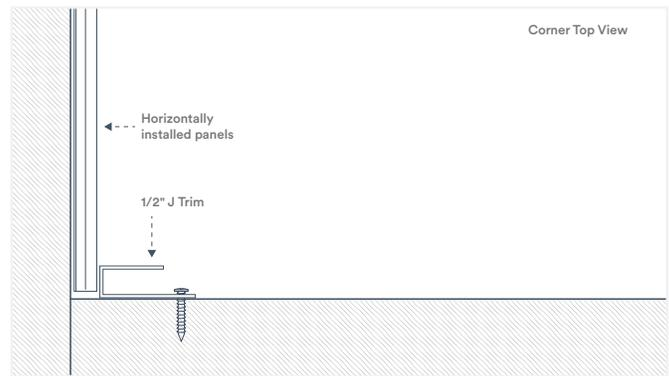

Fig. 19
10. After you have installed panels up to the ceiling, install J Trim or Inside Corner Cove trim in each corner of the wall with the panels. Place the trim against the panel with the channel facing away from it. Ensure it is pushed tight to the corner and then fasten it to the wall (Fig. 19).